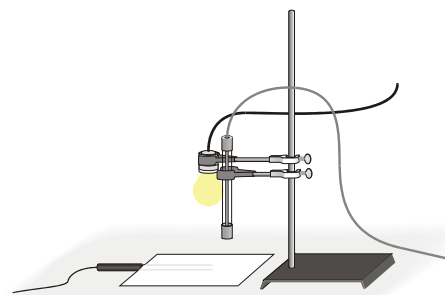

Figure 2
- d. Use a utility clamp and ring stand to fasten a Light Sensor 5 cm above a piece of colored paper as shown in Figure 2. The Light Sensor should be set on the 0–6000 lux position.